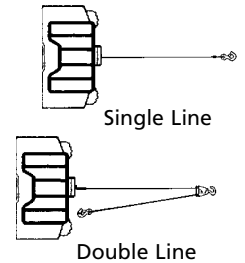

Figure 2
1. Maximum working load capacity is on the wire rope layer closest to the drum. DO NOT OVERLOAD. DO NOT ATTEMPT PROLONGED PULLS AT HEAVY LOADS. Overloads can damage the winch and/or the wire rope and create unsafe operating conditions. FOR LOADS OVER 1,000 POUNDS (454 kg), WE RECOMMEND THE USE OF THE OPTIONAL PULLEY BLOCK TO DOUBLE LINE THE WIRE ROPE Figure 2 . This reduces the load on the winch and the strain on the wire rope by approximately 50%. Attach hook to load bearing part. **The vehicle engine should be running during winch operation.** If considerable winching is performed with the engine off, the battery may be too weak to restart the engine.